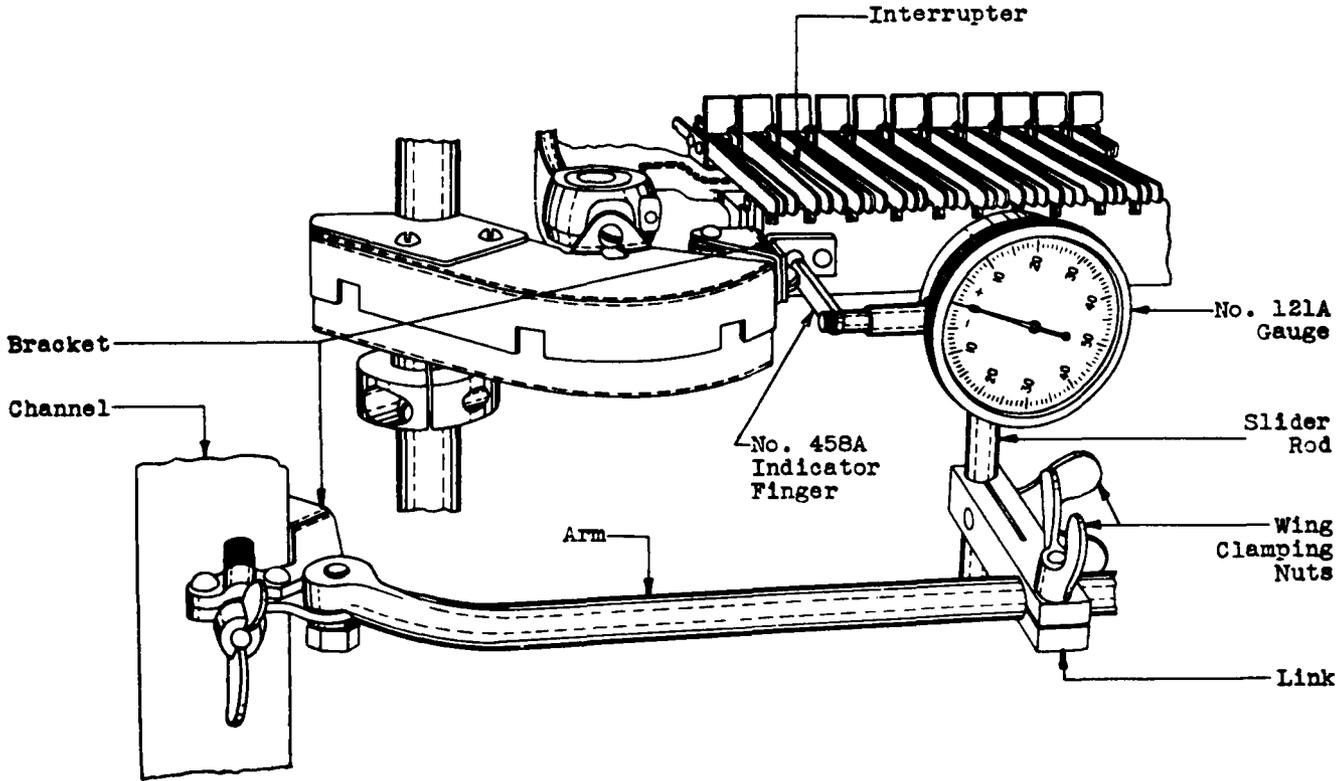

Fig. 31 - Mounting Arrangement of No. 473A Gauge Positioning Bracket for Checking Contact Separation
gauge and the link and bracket composing the No. 473A bracket as follows. Where there is sufficient space beneath the interrupter to mount the No. 473A bracket, mount the No. 458A indicator finger on the "push" end of the plunger of the No. 121A gauge. Mount and securely clamp the No. 121A gauge on the slider rod so that with the clamping nut on the slider rod uppermost the indicator finger is toward the left. Loosen both wing clamping nuts on the link and insert the slider rod in the smaller hole. Tighten the wing clamping nut only sufficiently to hold the rod in position. Then insert the arm in the other hole of the link and slightly tighten the wing clamping nut. Mount the assembly on the channel as shown in Fig. 31.
(10) With the interrupter in the normal position, force the arm toward or away from the interrupter and shift the link and the slider rod, until the indicator finger rests against the bracket which mounts the roller and bracket assembly and the needle makes one complete revolution. This is done to allow the needle to move a satisfactory amount in either direction when the actual checking is being done. Securely tighten the wing clamping nuts.
(11) Where there is insufficient space beneath the interrupter: Proceed as outlined in (9) except mount the gauge on the slider rod so that with the clamping nut on the slider rod lowermost the indicator finger is toward the left and insert the slider rod in the link from the bottom. Mount the assembly on the channel as shown in Fig. 31 but above the interrupter to be checked. With the interrupter in the normal position, locate the link, arm and slider rod as outlined in (10).
(12) Interrupters Mounted on Frames Where the Uprights are Other Than Channels: Assemble the gauge, link and brackets as outlined in (9) or (11) as required. Position the mounting bracket so that the wing clamping nut is toward the left and the open side of the bracket is away from the observer. Mount the bracket on the upright and move the link, gauge positioning bracket and slider rod as outlined in (10).
(13) Checking Contact Separation: When checking contact separation operate the motor electrically noting the maximum deflection of the indicator in a clockwise or counter-clockwise direction as specified in the following tables as the cam roller passes over the entire cam cutting. Then disconnect the power to the frame and manually turn the motor shaft at the coupling until the cam roller rests on the cam at the point at